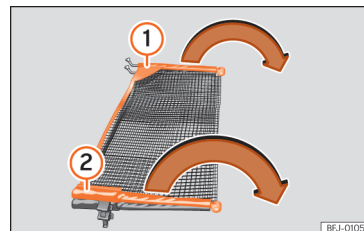

Fig. 166 Deploying the net partition.
Extend the cross rods » » Fig. 166 ① and ② of the net in the direction of the arrows until it "clicks".